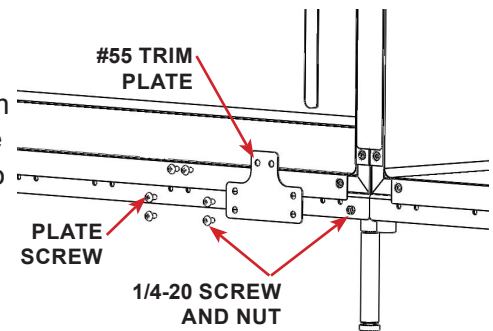

FIGURE 2.26 - Trim Plate #55
STEP 17: Install, but do NOT fully tighten screws, trim plate (#55) using the screws removed in the previous step. The bottom holes require two 1/4-20 screws and nuts to secure the cage to the platform frame. See FIGURE 2.26